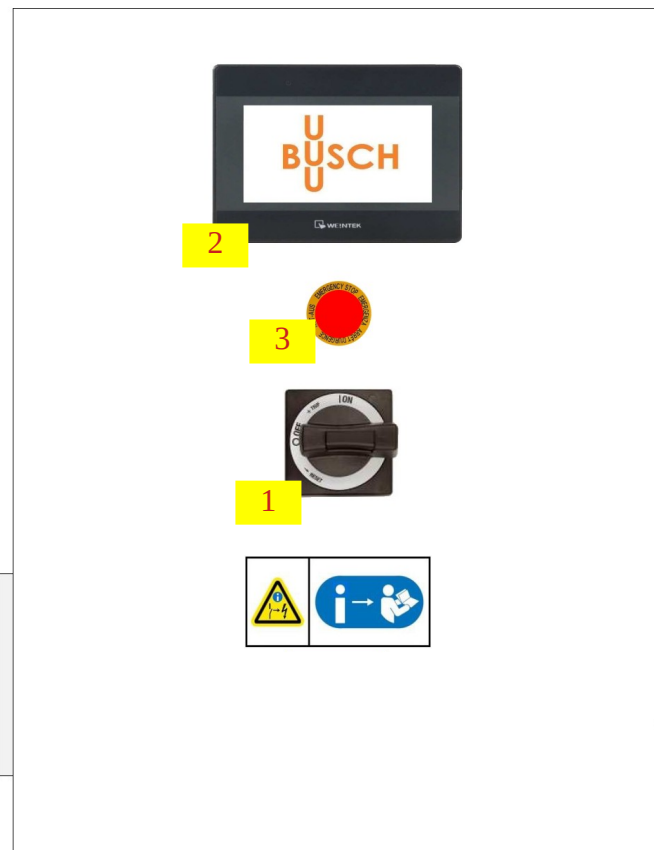

Fig. 4.1: Control cabinet
AE-BU series is an indoor, metal sheet, totally enclosed cabinet designed for control and powering of the blower/compressor/vacuum pump unit and complies with EN 60204-1 and EN 61439-1. The switchboard consists of electric components, which ensure starting, running and safe operation of the machine. See the fig 4.1 for the overview of the components. The switchboard is secured against short circuit by main power switch/circuit breaker 3F1 (1). Start and blower speed control is controlled by frequency converter driven by the AECon touch panel 3A8 (2). In case of emergency, the machine can be stopped immediately by pressing the Emergency stop button (3).